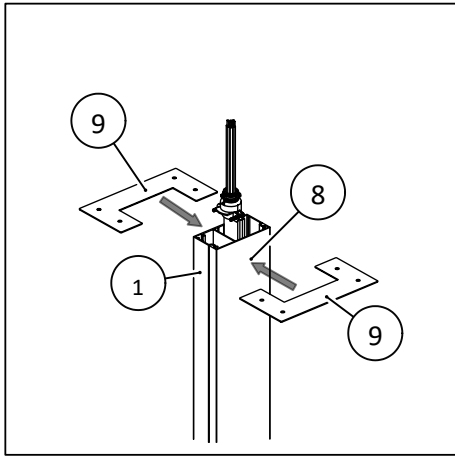

Figure 8
STEP 7: Place the ceiling collar around the power pole and mount to the ceiling with 6 screws; as shown in Figures 8 and 9.